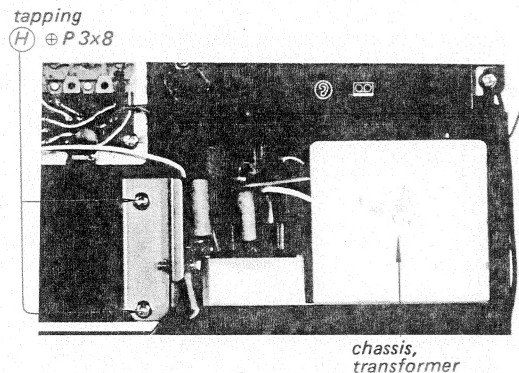

Fig. 2-9. Power supply circuit board removal
4. Remove the two screws marked (H) in Fig. 2-9.